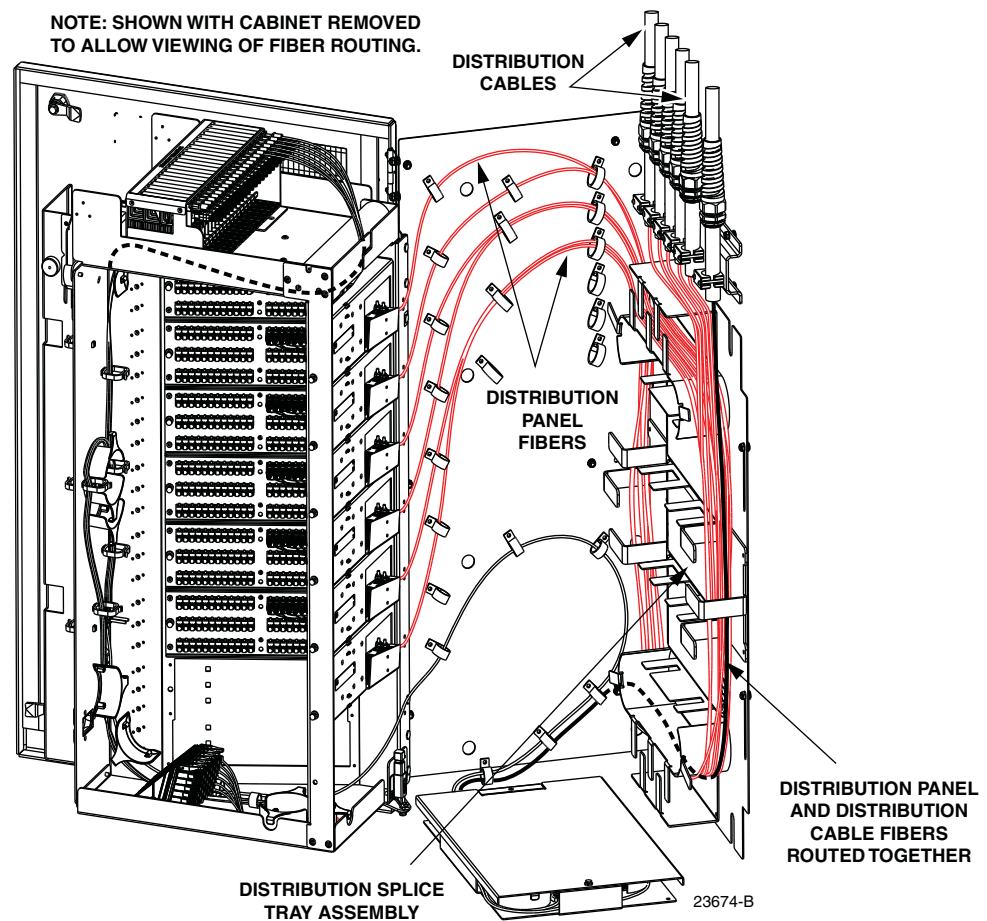

Figure 37. Distribution Splice Trays and Distribution Panel Fiber Routing – Stranded
1. Locate the distribution splice tray assembly which is mounted at the back of the cabinet, as shown in Figure 37. Trace the routing of the distribution panel fibers and identify each splice tray and the corresponding distribution panel.